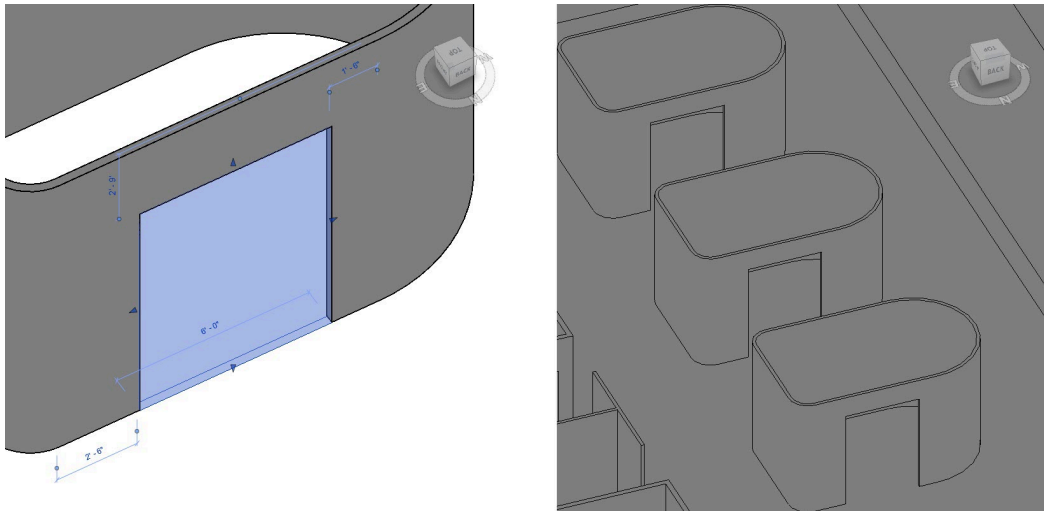

Figure 2.28 Wall Opening with witness line dimensions
8. Select the opening and use the witness lines to change the dimensions as shown in Figure 2.28.